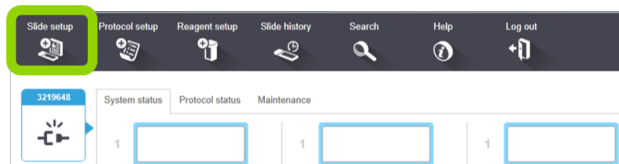

Figure 38: Slide setup icon
1. Click the **Slide setup** icon (see Figure 38).